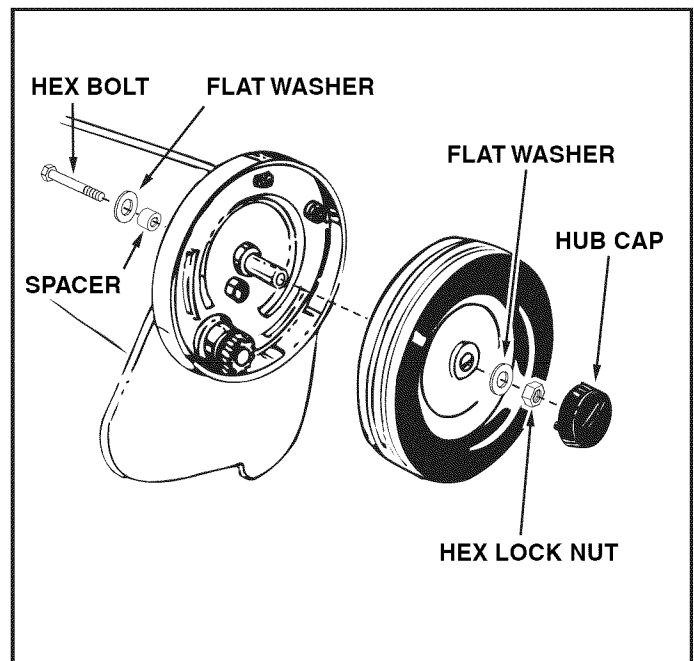

FIGURE 21
- Every two years, remove the wheels and clean the gears found inside the wheel housing. After cleaning, lubricate with an even coat of light grease. To remove the wheel, pop off the hub cap using a screwdriver and remove the lock nut and flat washer. See figure 21.